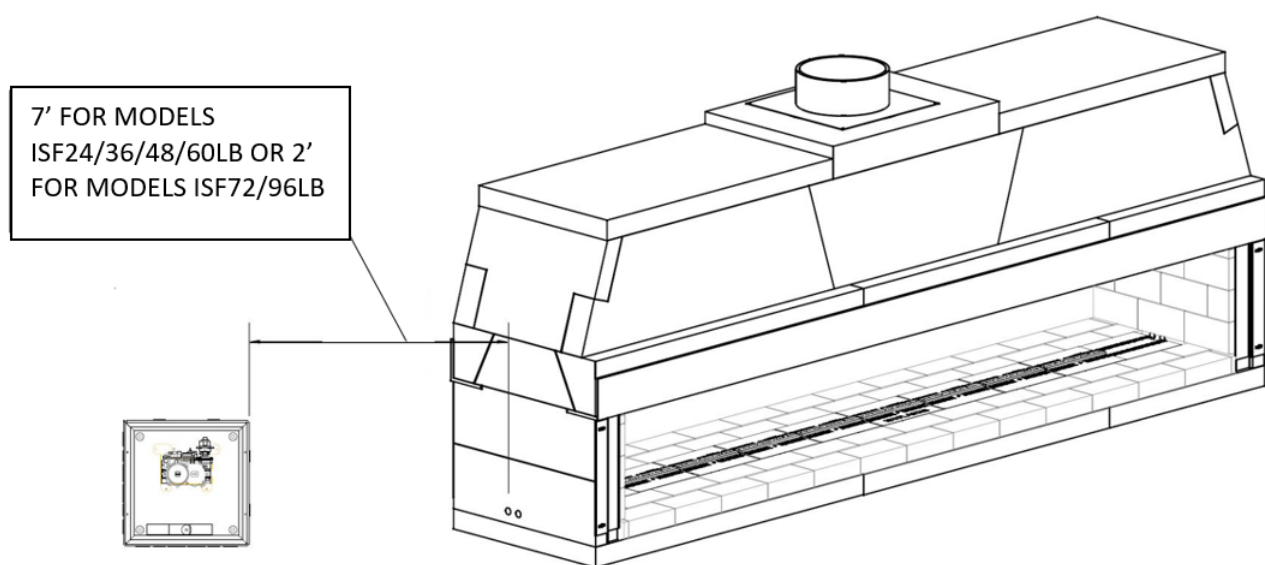

FIGURE 1
- 1) The valve control box comes with an 110" pilot assembly lead; therefore, the box must be mounted within 7' of the fireplace for models ISF24/36/48/60LB and within 2' for models ISF72/96LB. **(Figure 1)**